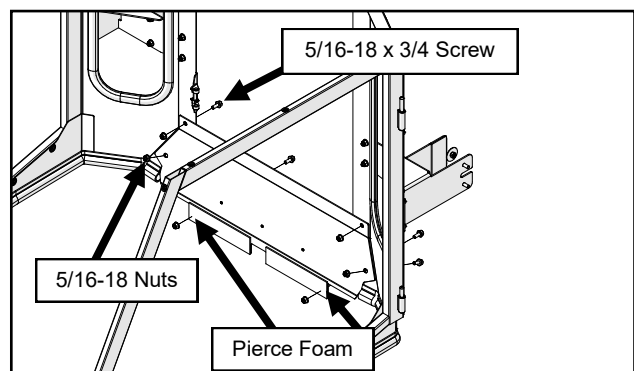

Fig. 8.1 (Lower Rear Panel)
- 8.1 Pierce the foam padding where required and set the lower rear panel in place on the INSIDE of each rear leg and down to the outside of the vehicle rear cross bar. Loosely secure with hardware provided. See Figure 8.1. If a backhoe is or will be installed, make sure to pierce the required holes to secure the hydraulic line bracket.